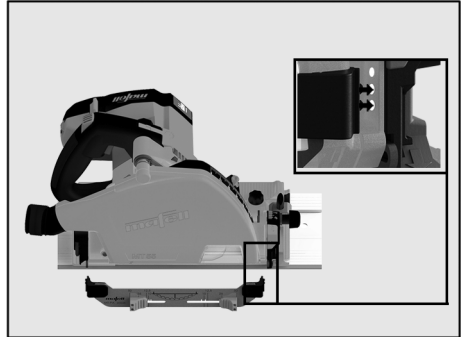

Fig. 27: Clamping the position indicator – working with a guide rail
- Use the two lower holes if using a guide rail (see Fig. 27).